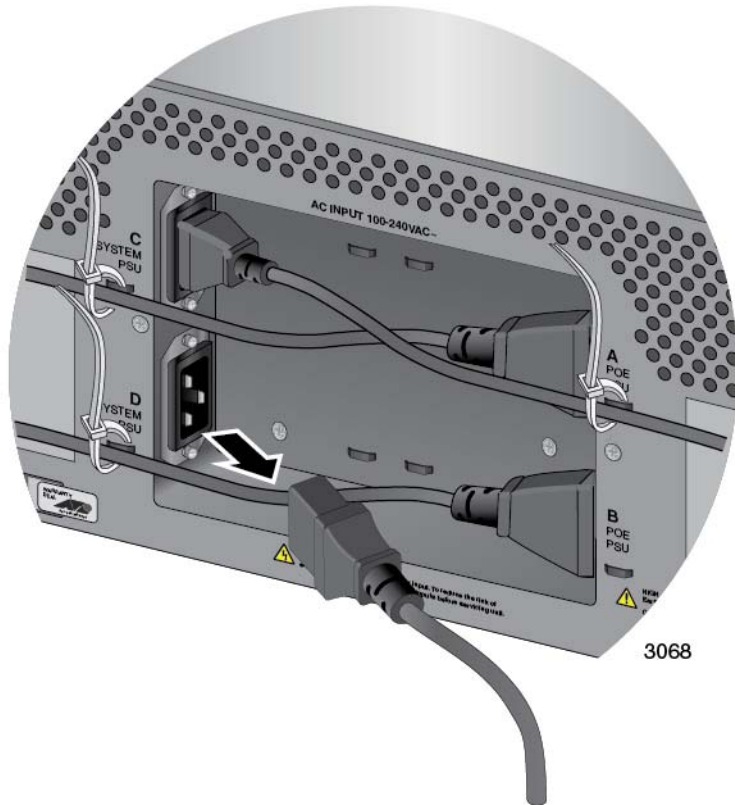

Figure 147. Disconnecting the AC Power Cord from the AC Socket on the Back Panel
1. Disconnect the AC power cord for the failed power supply from the AC power source and the corresponding AC socket on the back panel of the chassis. The figure in Figure 147 on page 231 shows the removal of the power cord from connector D, which corresponds to slot D on the front panel.